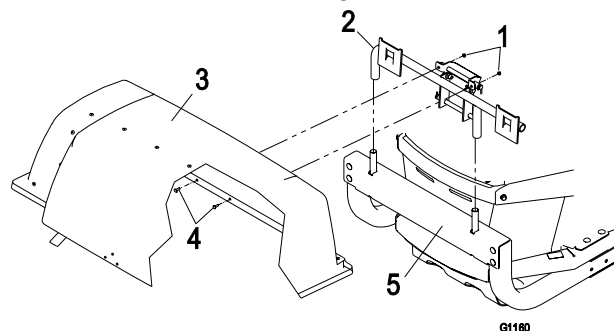

Figure 6
1. Install the bagger mount assembly (item 2) onto the hood assembly (item 3) using two 1/4-20 x 3/4 screws (item 1) and nyloc nuts (item 4) as shown in Figure 6.